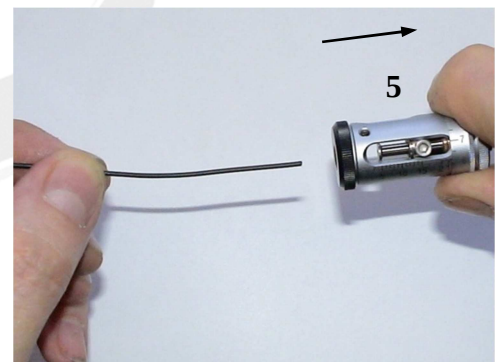

Fig. 4 Opening the blades
In case of diameters (<0.5 mm) which are to be stripped very short (3 mm), the length setting ring gauge (2) should not be fixed in place, so that when the stripping head (5) is pulled back, the stripping blades can be opened fully (cleaning effect) (Fig. 4)
- Pull the stripping head (5) backwards up to the stopper. The four stripping blades are now fully open. (Fig. 4)